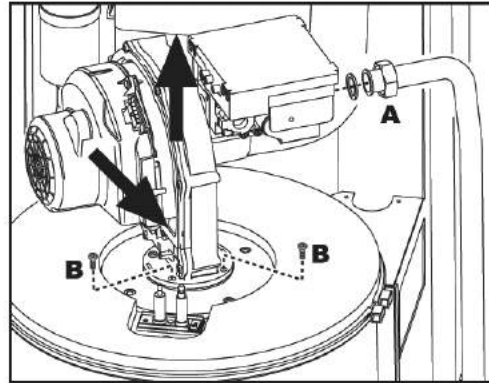
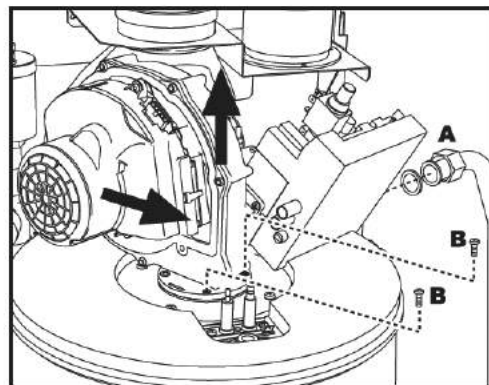

fig. 50 - model FUTURIA power 80 - 160
fig. 51 - model FUTURIA power 125 - 250
4. Loosen the **gas valve** (e) Fixing ring Fig" 50"A Fig 51.
5. Undo the two screws "B" and remove the fan assembly as indicated in Fig 50 for the model **80 - 160** and in for Fig 51 the model **125 - 250**.